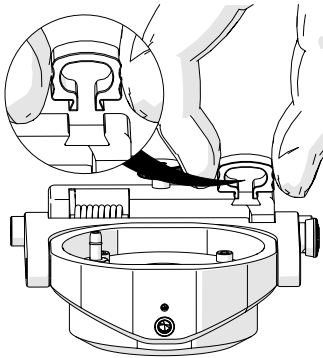

Fig. 135 - Cable clip
1. The supplied cable clip (*Fig. 135*) is offered as a means of cable management. Pinch the clip for removal and installation. The cable clip is not typically used in conjunction with the raster arm setup.